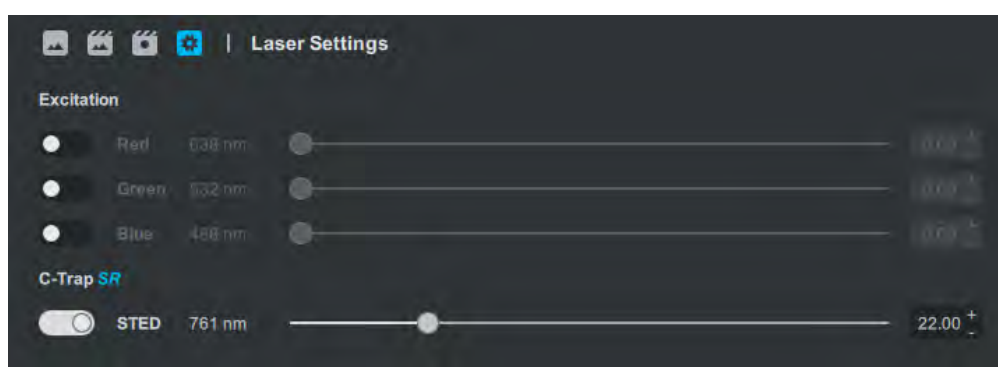

Figure 11.11.1: Figure: Turning on STED super-resolved fluorescence imaging.
2. The **Excitation Lasers** panel in Bluelake for the C-Trap Dymo 700 allows control over the depletion laser (see Figure 11.11.1). Check the box corresponding to this laser and set its power to the desired level using the slider.